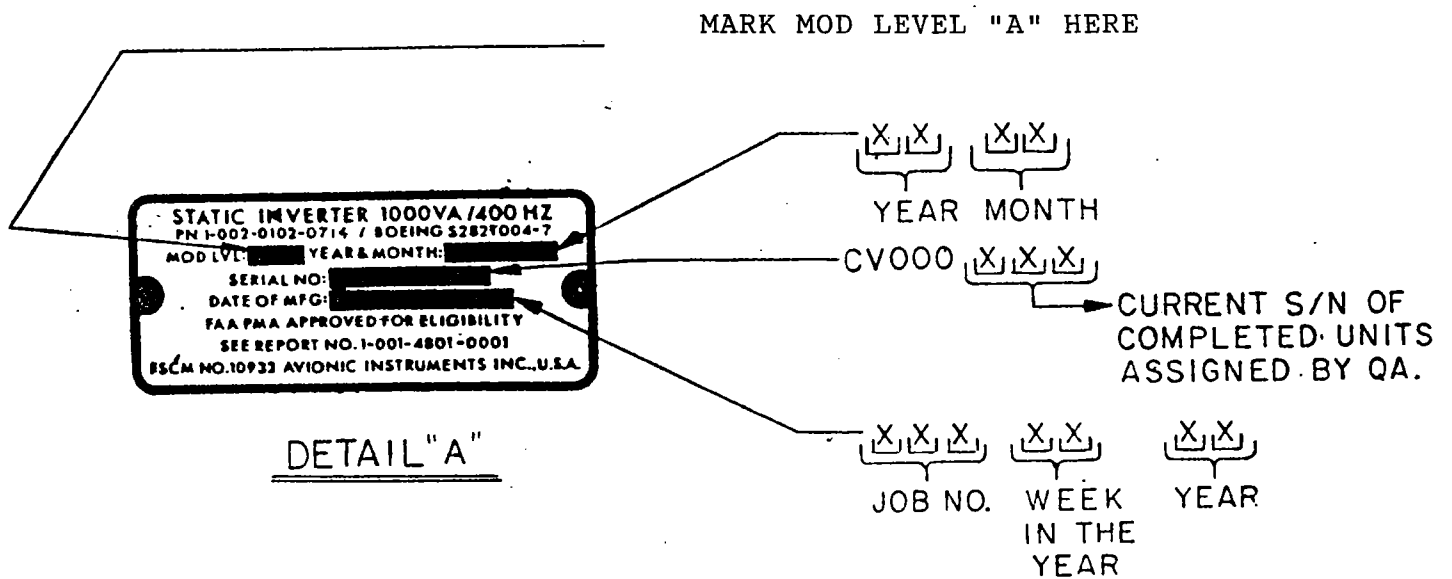

FIGURE 5
2. - Use the "A" metal stamp to reidentify the MOD LEVEL by stamping an "A" in the silver area next to the existing letter (See figure 5).